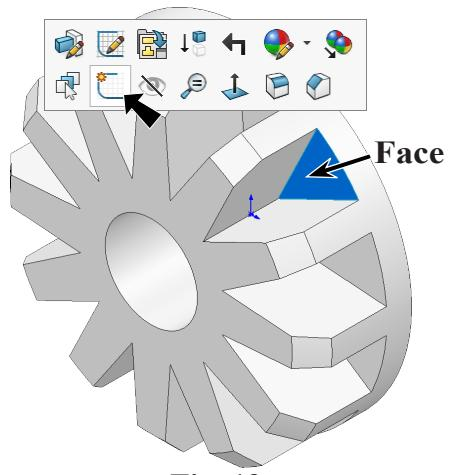

Fig. 19
Step 1. Click the **front face** of **Extrude1** and click **Sketch**  on the context toolbar, **Fig. 19**.